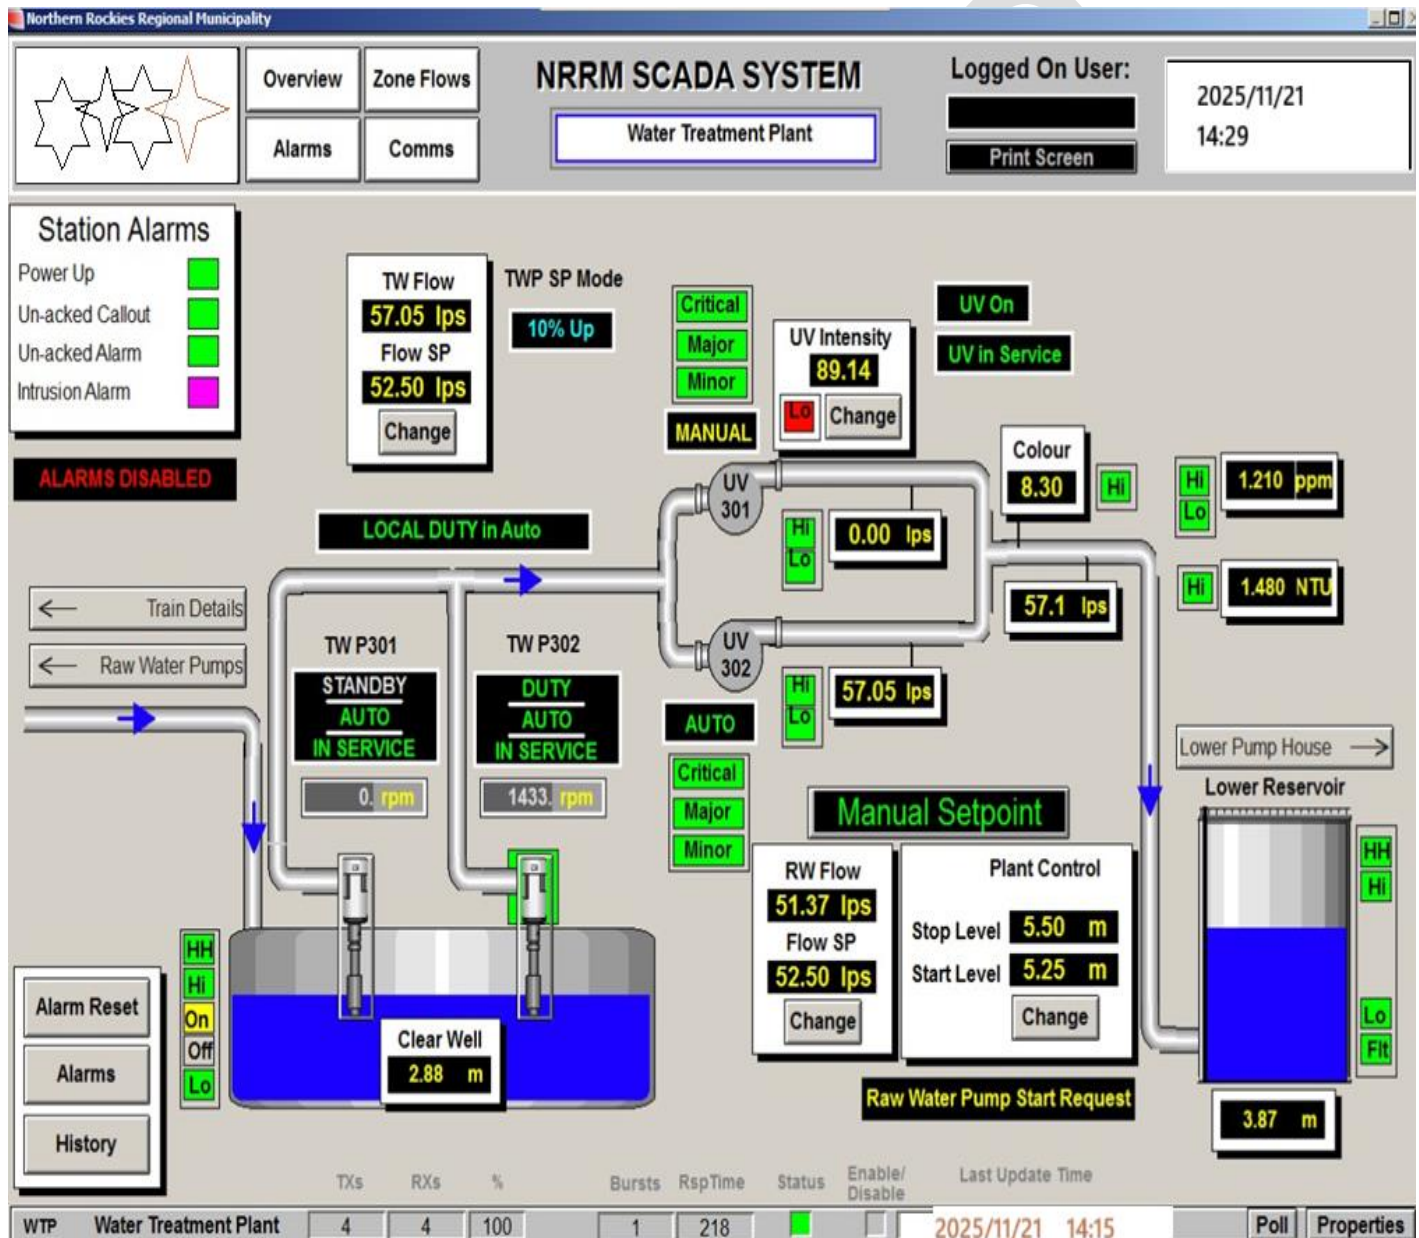

Figure 2: NRRM SCADA System to monitor Water Treatment operation
Refer to Figure 2 and answer questions that follow.
Match COLUMN A and B regarding SCADA diagram in figure2 regarding the Plant Status of the process illustrated.
b. List three (3) process variables that are indicated in the SCADA diagram in figure 2
In the SCADA diagram in figure 2, it is indicated that Treatment Water flowrate is 57.05 litres per second.